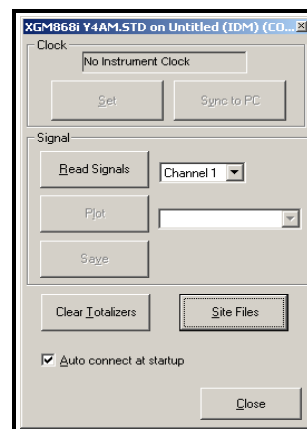

Figure 5-4: *Properties* Window
3. The *Properties* window appears similar to Figure 5-4 below. To clear the XGM868i totalizers, click on the [Clear Totalizers] button. The XGM868i totalizers are reset to 0.